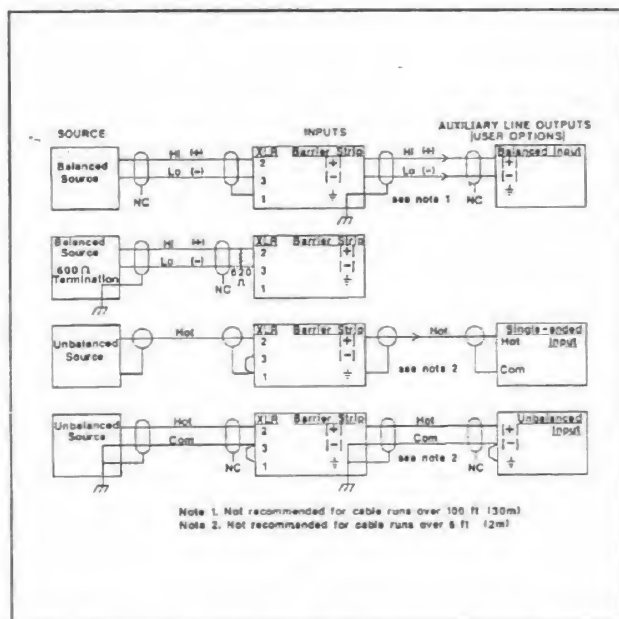

FIGURE 3 — Typical Input Connections
Two conductor shielded low-impedance cable is recommended for input lines to the amplifier. Pin 2 of the XLR-type connector is high (+), pin 3 is low (-), and pin 1 is ground. The 1/4-inch jack may be used as a low impedance input. Tip is high (+), ring is low (-), and the sleeve is ground. See Figure 3.
In the dual or stereo mode the channels may be operated independently. Before hook-up make sure that the mode switch is in the dual position and that the level controls are down (FCCW). Connect the inputs and outputs (See Figures 3 and 4). Turn the power amp on and slowly increase level until the desired output power is obtained. If either (clip) LED illuminates, reduce the output with the input attenuators or reduce the source signal level.
- Verify that the input connections are properly made. See Figure 3, page 4.
- Verify that the output connections are properly made. See Figure 3, page 4.